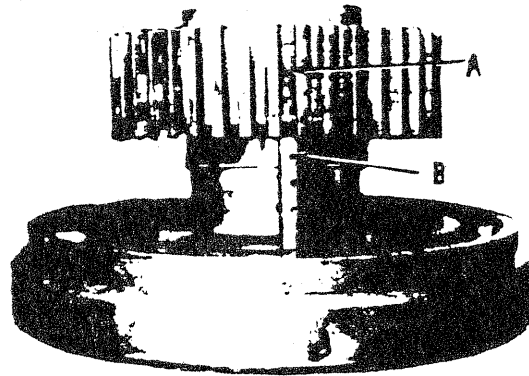

Figure 28
6. When assembled, the holes "A" in the clutch hub will be in line with the oil cooling valve "B" as shown in Figure 28.
7. Blanked out teeth on friction discs (10) must be in line.
9. Torque capscrews (1) with 70 ft. lbs., setscrews (17) with 40 ft. lbs.